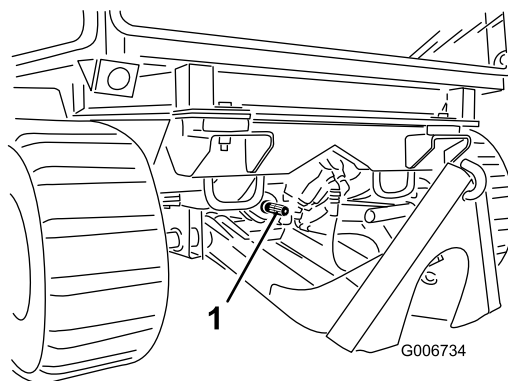

Figure 56
6. If the attachment is powered by the PTO, extend the attachment PTO shaft and insert it onto the machine PTO shaft (Figure 56).